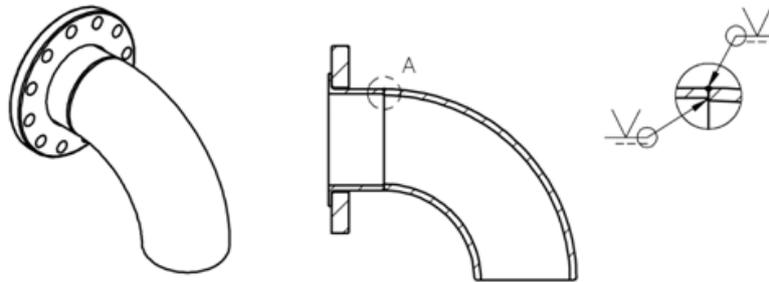

Figure 2-15 Suction and Discharge Piping Layout Diagram
- Note1. Please weld steel pipes onto flanges by butt-welding and make sure debris has been cleaned, otherwise the compressor might be damaged during operation. Flow velocity on the discharge side of the compressor could be as high as 15~20 m/sec. High-speed discharge gas will make noise in discharge connection. In order to decrease the noise level, it is recommended to remove sharp edges of joints during flange welding as shown in Figure 2.15.